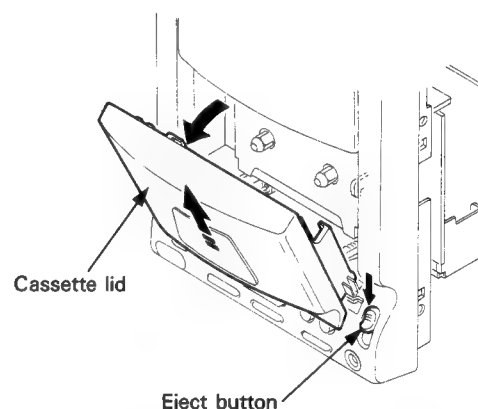

Fig. 7-17
2. Remove the four screws (19) retaining the cassette mechanism and door holder, and dismount these mechanism and assembly from the front panel assembly.
3. From the front panel, remove the three screws (31) retaining the door holder assembly.
■ **Method of removing the tape deck operation switch P.C. board** (Refer to Figs. 7-17 and 7-18)
2. By pressing the [EJECT] button, open the cassette door (Refer to Fig. 7-17).